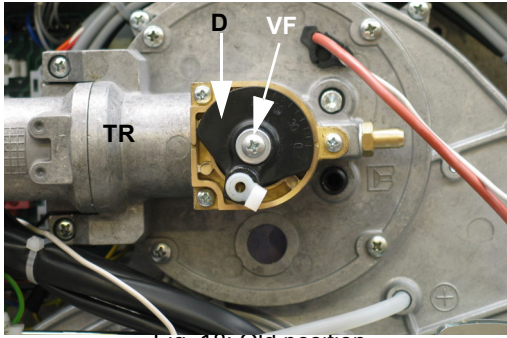

Fig. 18: Old position
- 8 (Fig. 18) Insert again the flange and the combustion head together
- 9 (Fig. 18) Rotate the disc **D** following the instructions below.
- 10 Take off the screw **VF**.(Fig. 18)